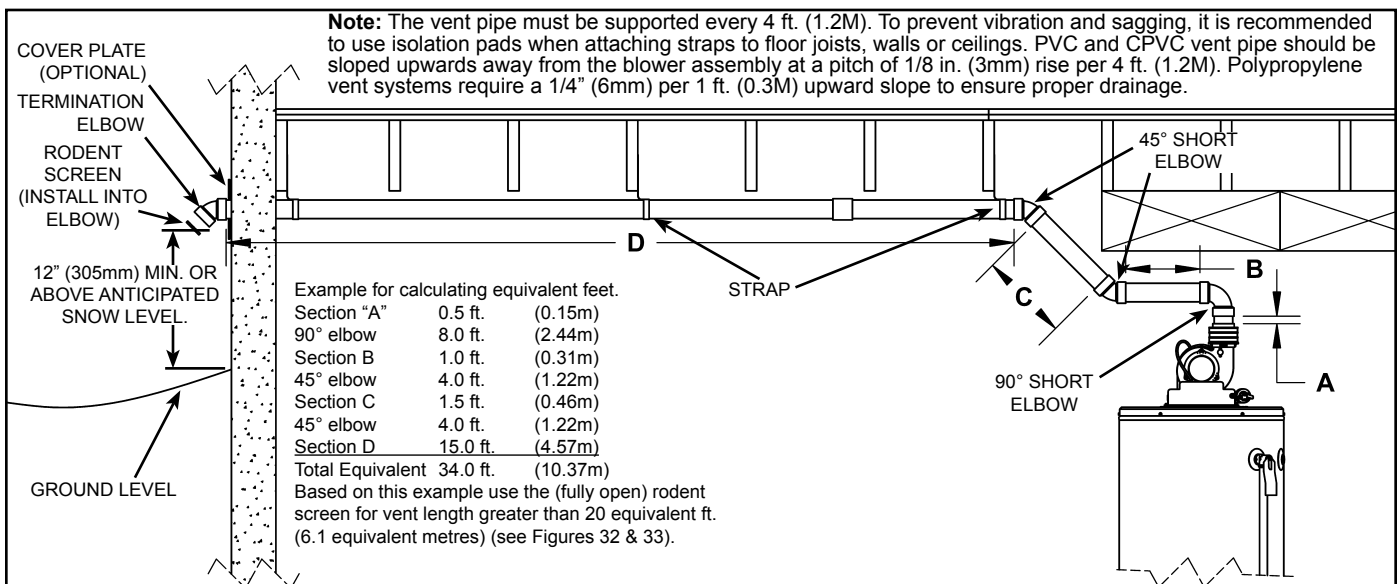
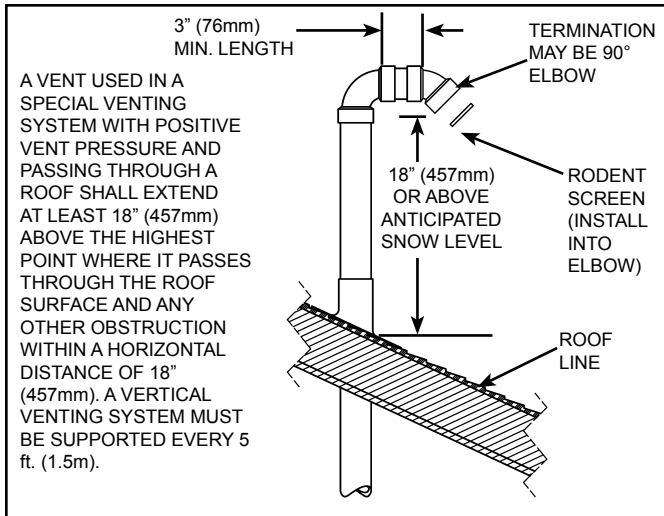

Figure 34
Figure 37
This heater is designed to exhaust the products of combustion (flue gases) to the outdoors using a sealed piping system. Table 2 lists the allowable vent materials and sizing information. Figure 34 shows the general venting layout while Figures 38-42 show various end termination details and clearances. Connection of the venting piping to the blower is shown in Figures 38-42.
- Refer to Figure 34 and Table 2 for vent pipe materials and sizing. Examples of the vent terminations are shown in Figures 35 & 36. If the installation requires a vent riser, suitable drainage must be provided to ensure condensation does not accumulate. Termination through a roof is shown Figure 37.
Installed in the vent termination elbow, the vent screen is required to keep foreign objects, rodents and small birds from entering the venting system. These screens have been sized to ensure maximum energy efficiency of the vent system based on the "equivalent length" of the vent piping. **CHOOSE ONLY the ONE SCREEN THAT MATCHES YOUR VENTING CONFIGURATION** (see Figures 32 & 33). How to determine the "equivalent length" is shown in Figure 34 and in Table 2.
5. Calculate "Equivalent Vent Length" before starting. Do not exceed the values shown in Table 2. An example of how this length is determined is shown in Figure 34. The value from your calculations should also be used to determine which rodent screen to install into the vent termination elbow.